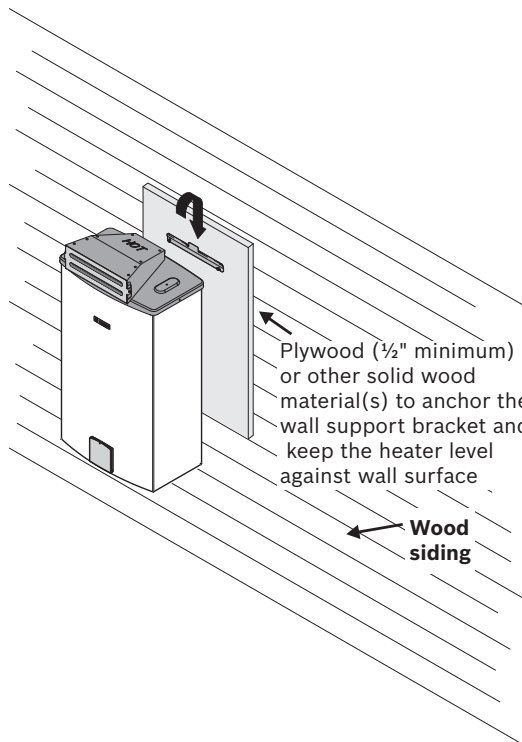

Fig. 9 Installation on wood siding
- ▶ The water heater is approved for installation directly on an outside wall. Secure the wall mounting bracket provided with the water heater to a wall surface. See Fig. 9.